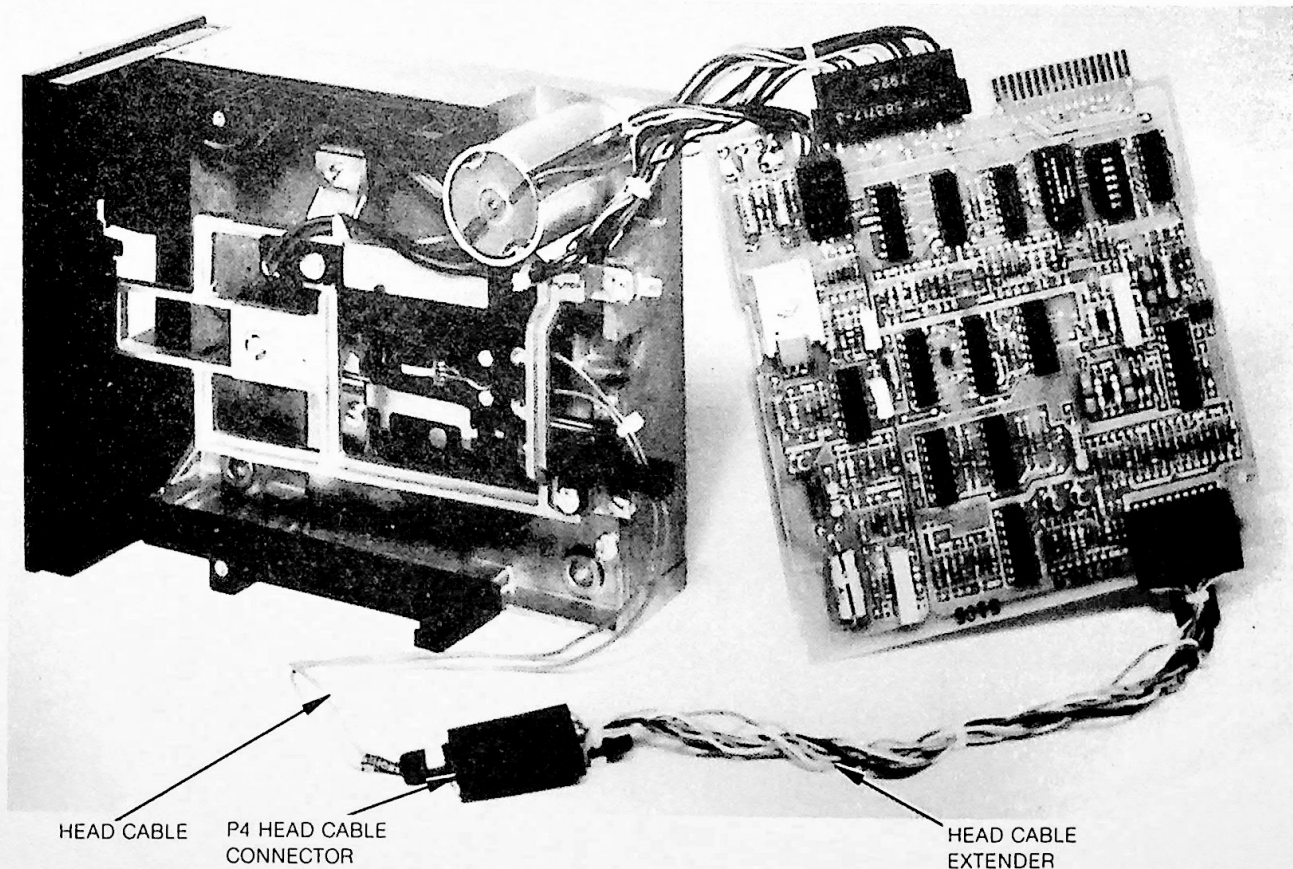

FIGURE 35. SA450 SERVICE POSITION
- a. Remove the PCB and install the head cable extender. Leave the PCB and interface connectors installed. Reference Figure 35.